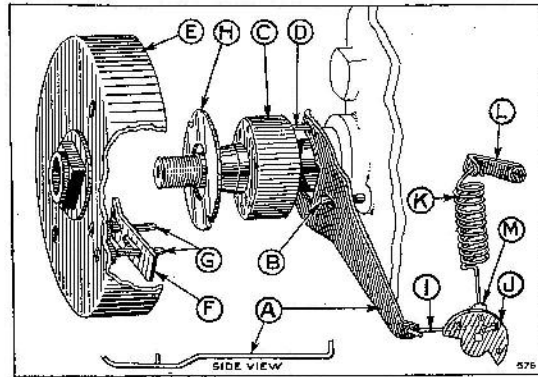

FIG. 9—GOVERNOR ASSEMBLY AND HOOK-UP
45. The Model "FH" motor is equipped with a centrifugal type governor, which automatically holds the motor speed normal under load. The governor parts are assembled as described below, see Fig. 9.
46. **The Governor Assembly and Hook-up.** The governor arm (A) must have the shape as shown in side view. The arm is placed over the crankshaft with the ears to the right and the small slot over the pin (B). The governor arm (A) should then be held in place while sliding spool (C) on far enough to pass the pins (D) through the slots in the governor arm fork. The spool (C) must have a free sliding fit over the crankshaft. The governor flywheel (E) with the weights (F) fitted loosely over the pins (G) and the washer (H) working freely between the two inner pins (G) is then
51. **Hook-up.** First make sure that the throttle link has one end hooked through the hole in the governor arm and the other end hooked through the large hole in the throttle lever as shown in Fig. 9. The coiled end of throttle spring is hooked through the throttle spring clip and the other end